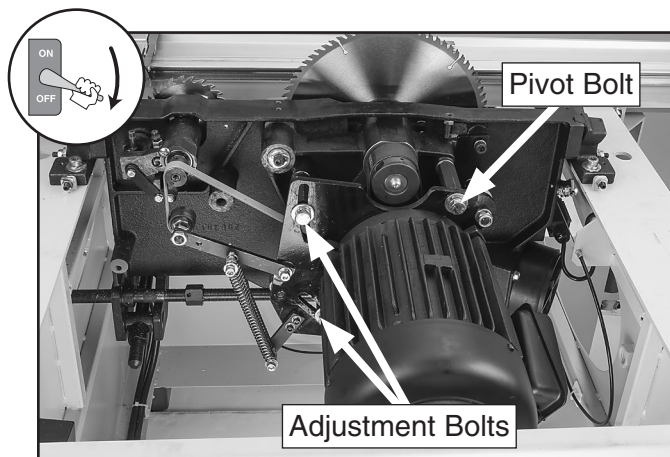

Figure 150. Location of adjustment and pivot bolts (cast-iron table removed).
3. Loosen pivot bolt and two adjustment bolts shown in **Figure 150**.